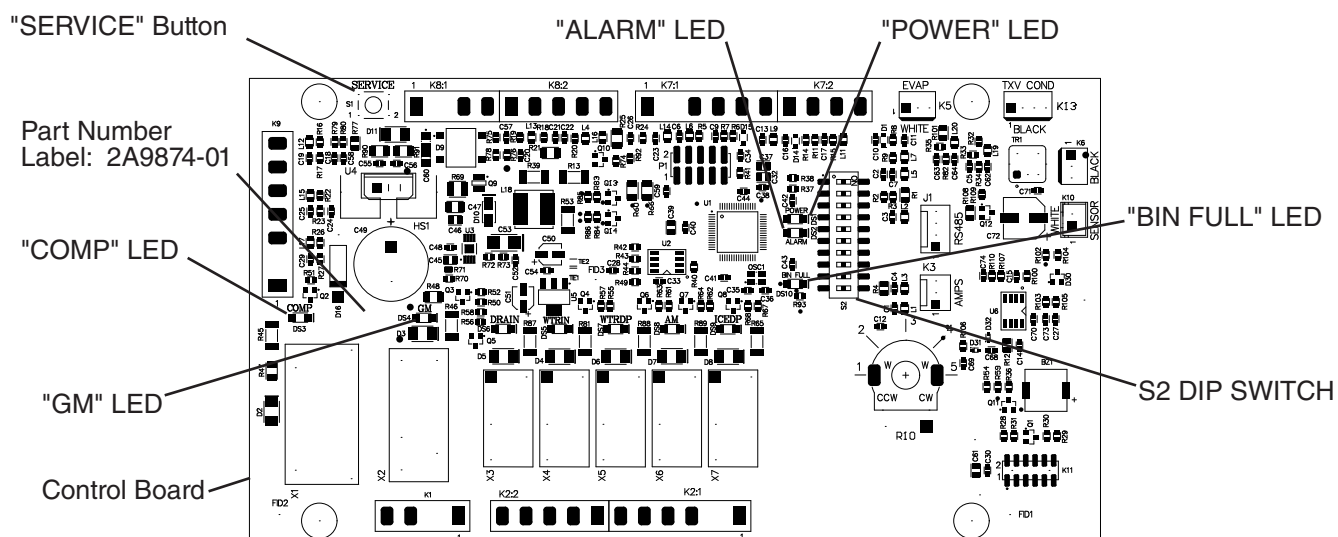

Fig. 3
- 5) Make sure the "GM" LED on the control board is on. See Fig. 3. There is a delay of at least 30 seconds before the "GM" LED turns on after power-up. After the "GM" LED turns on, press the "SERVICE" button on the control board to bypass the 5-min. compressor delay. **WARNING! Risk of electric shock. Care should be taken not to touch live terminals.** Confirm the "COMP" LED turns on.